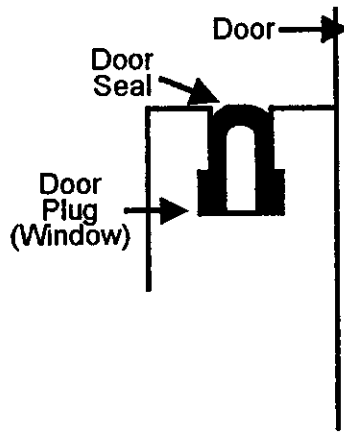

FIGURE 2
- d. Door Seal - Remove the door seal from the channel in the window. Insert the new seal in the channel, making sure it is in the correct position (see figure 2 on the next page). When replacing the door, replace the rubber O-Ring (Grommet, see figure 3 on the next page), if it is damaged or worn. To replace the door, reverse the door removal procedure.